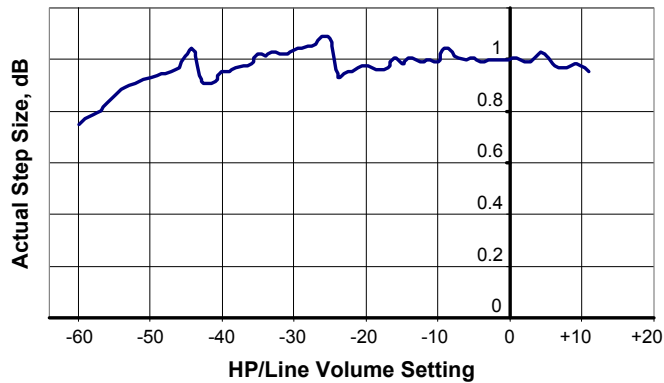
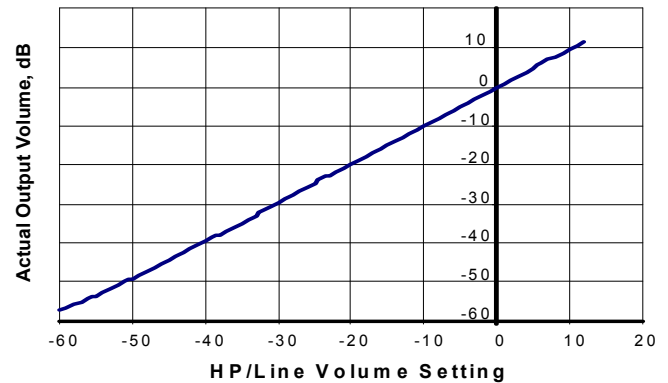

Figure 39. HP/Line Step Size vs. Volume Setting
Figure 40. HP/Line Output Volume vs. Volume Setting
1. The step size may deviate from 1.0 dB. Refer to Figure 39 on page 89 and Figure 40 on page 89.